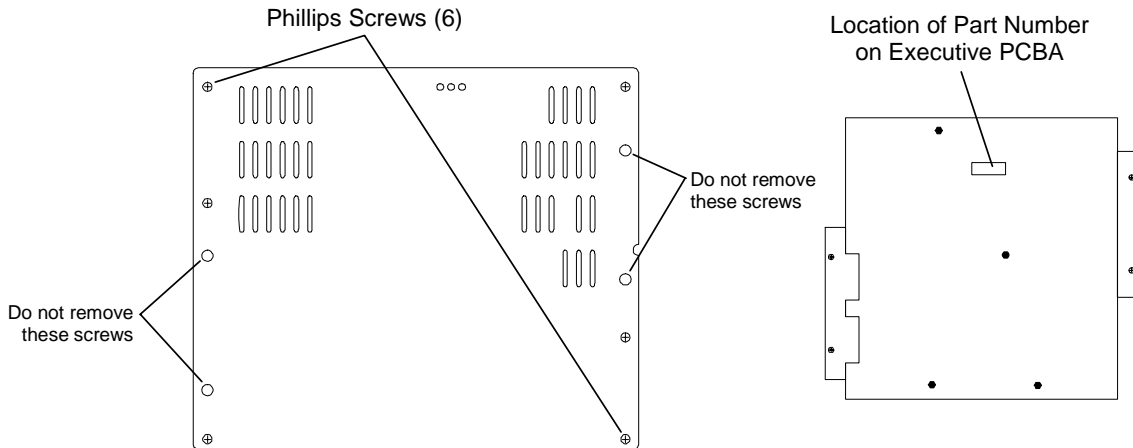

Figure 8-1 Rear Service Panel and PCBA Part Number Location
3. Remove the six Phillips screws securing the service panel on the rear of the library. Refer to Figure 8-1. Care must be taken to not remove the four screws securing the heatsink panels.